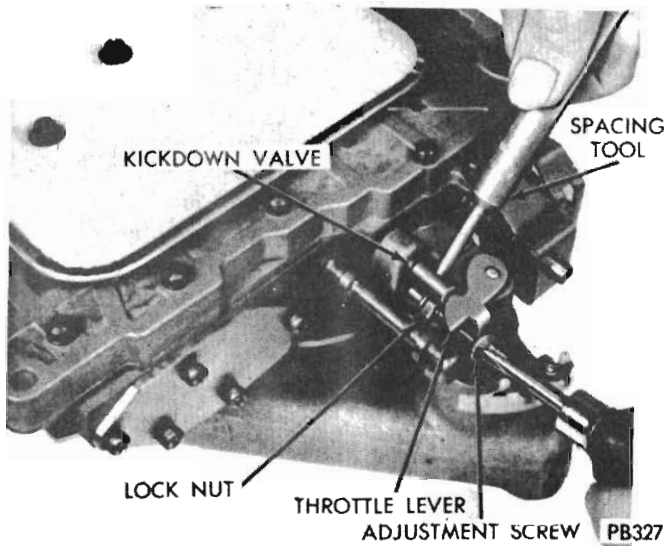

Fig. 29 – Throttle pressure adjustment
- (1) Remove valve body assembly from transmission to perform adjustment.
- (2) Loosen throttle lever stop screw lock nut and back off approximately five turns (Fig. 29).
(3) Insert gauge pin of Tool E21C55 between the throttle lever cam and kickdown valve.
(4) By pushing in on tool, compress kickdown valve against its spring so throttle valve is completely bottomed inside the valve body.
(5) As force is being exerted to compress spring, tighten throttle lever stop screw finger tight against throttle lever tang with throttle lever cam touching tool and the throttle valve bottomed. *Be sure adjustment is made with spring fully compressed and valve bottomed in the valve body.*
(6) Remove tool and tighten stop screw lock nut securely.